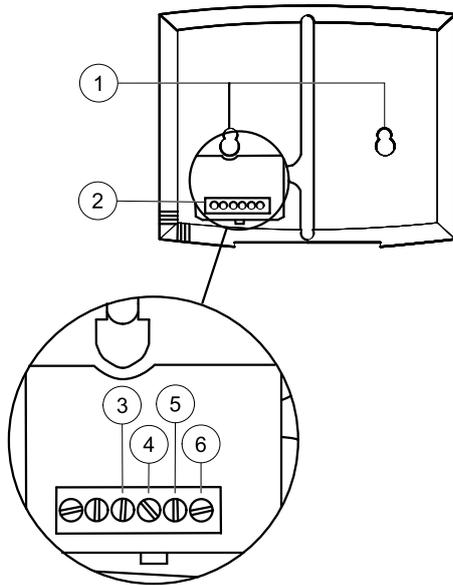

Fig. 17 Control panel wire connections
If needed, drill two holes in the wall to hang the control panel (center to center: 60 mm) (pos. 1, figure 17).